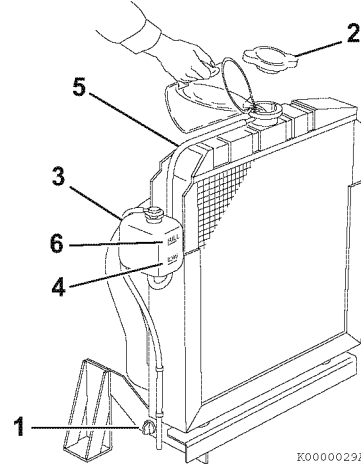
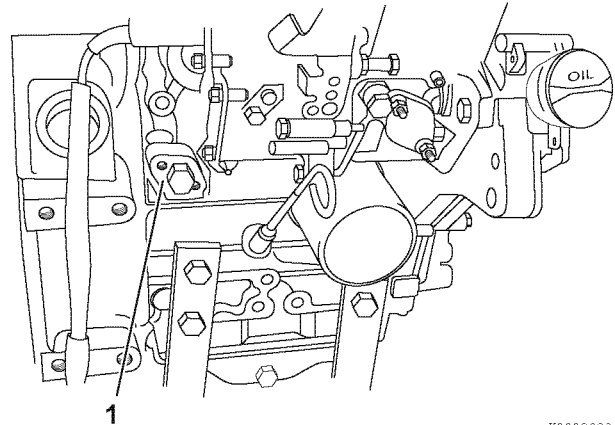

Figure 4-7
Figure 4-8
1. Check to be sure the radiator drain plug is installed and tightened or the drain cock (Figure 4-7, (1)) is closed. Also make sure the coolant drain plug (Figure 4-8, (1)) in the cylinder block is closed.
2. Remove the radiator cap (Figure 4-7, (2)) by turning it counterclockwise about 1/3 of a turn.
4. Reinstall the radiator cap (**Figure 4-7, (2)**). Align the tabs on the back of the radiator cap with the notches on the engine coolant filler port. Press down and turn the cap clockwise about 1/3 of a turn.
5. Remove the cap of the reserve tank (**Figure 4-7, (3)**), and fill it to the LOW (COLD) mark (**Figure 4-7, (4)**) with engine coolant. Reinstall the cap.
6. Check the hose (**Figure 4-7, (5)**) that connects the reserve tank (**Figure 4-7, (3)**) to the radiator. Be sure it is securely connected and there are no cracks or damage. If the hose is damaged, engine coolant will leak out instead of going into the reserve tank.
7. Run the engine until it is at operating temperature. Check the level of engine coolant in the reserve tank. When the engine is running and the engine coolant is at normal temperature, the coolant level in the tank should be at or near the FULL (HOT) mark (**Figure 4-7, (6)**). If the engine coolant is not at the FULL (HOT) mark (**Figure 4-7, (6)**), add additional engine coolant to the reserve tank to bring the level to the FULL (HOT) mark.